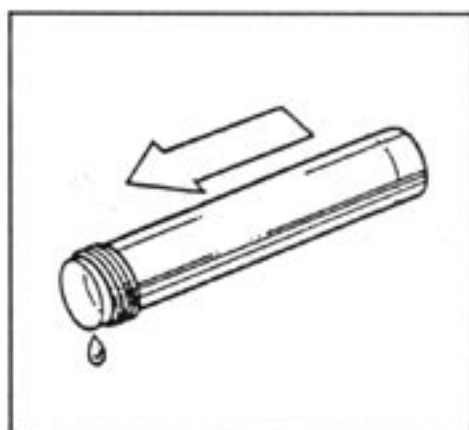

Figure 5
6. When incubation is complete, pour off pre-hybridization solution with membrane/mesh in place (see Figure 5), and replace with hybridization solution. Continue all incubation and washing steps in this manner.